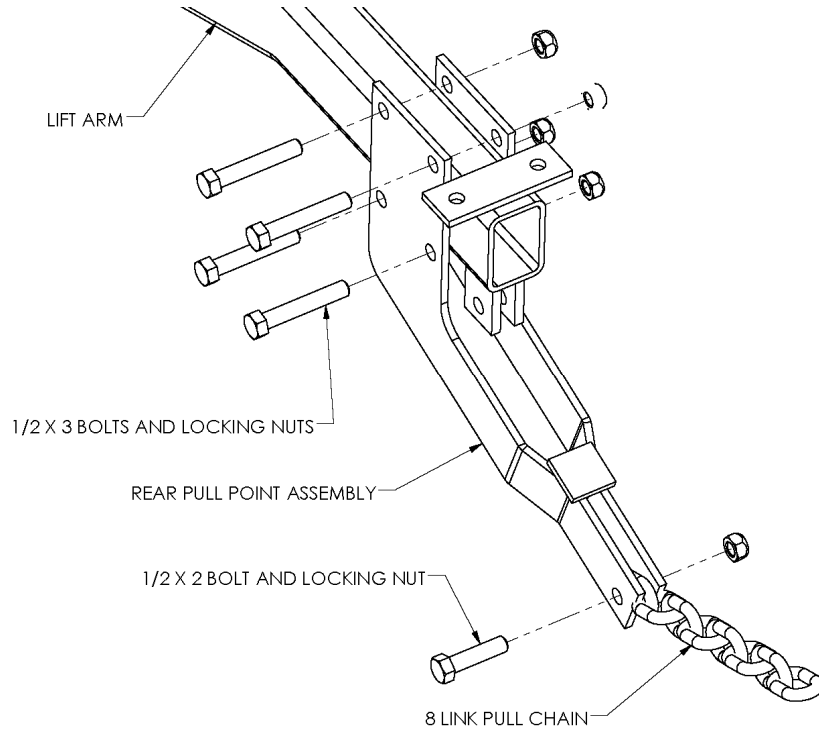

Figure 16
1. Attach a rear pull point assembly to the rear end of each lift arm. Use four $1/2'' \times 3''$ bolt and lock nuts. Refer to Figure 16.
2. Bolt an 8-link pull chain to the end of the rear pull point assembly with a $1/2'' \times 2''$ bolt, lock washer, and hex nut. Refer to Figure 16.